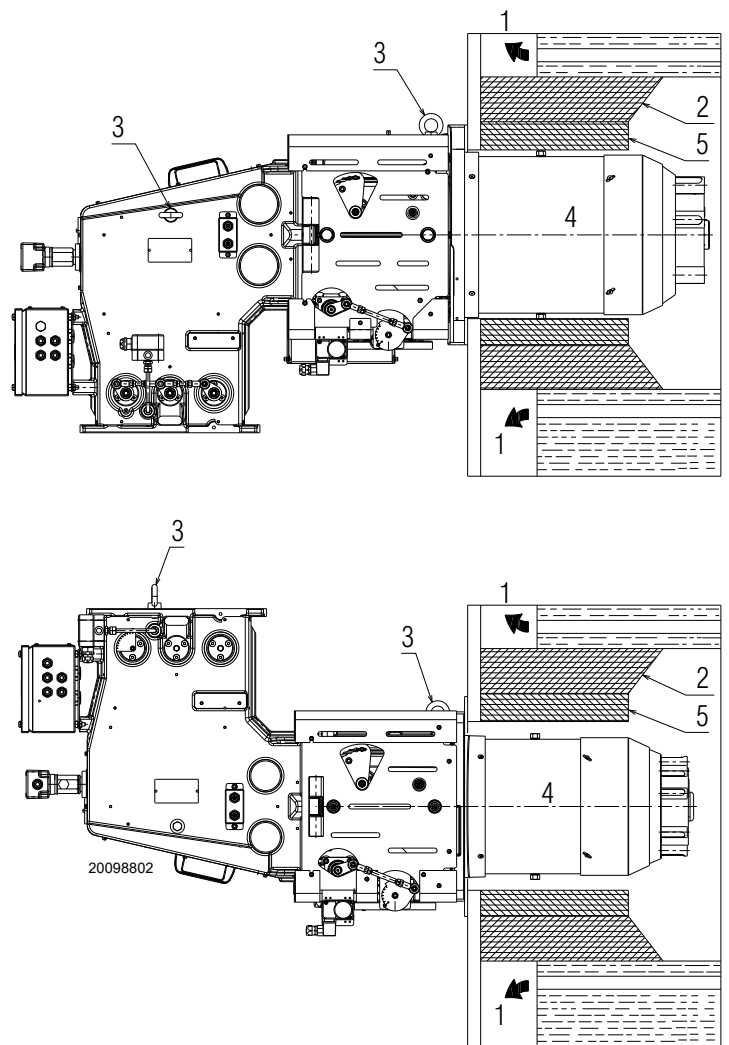

Fig. 15
This protective fettling must not compromise the extraction of the blast tube. For boilers having a water-cooled front the refractory fettling 2)-5)(Fig. 15) is not required unless it is expressly requested by the boiler manufacturer.
- Prepare an adequate system of hoisting by hooking onto the rings 3)(Fig. 15).